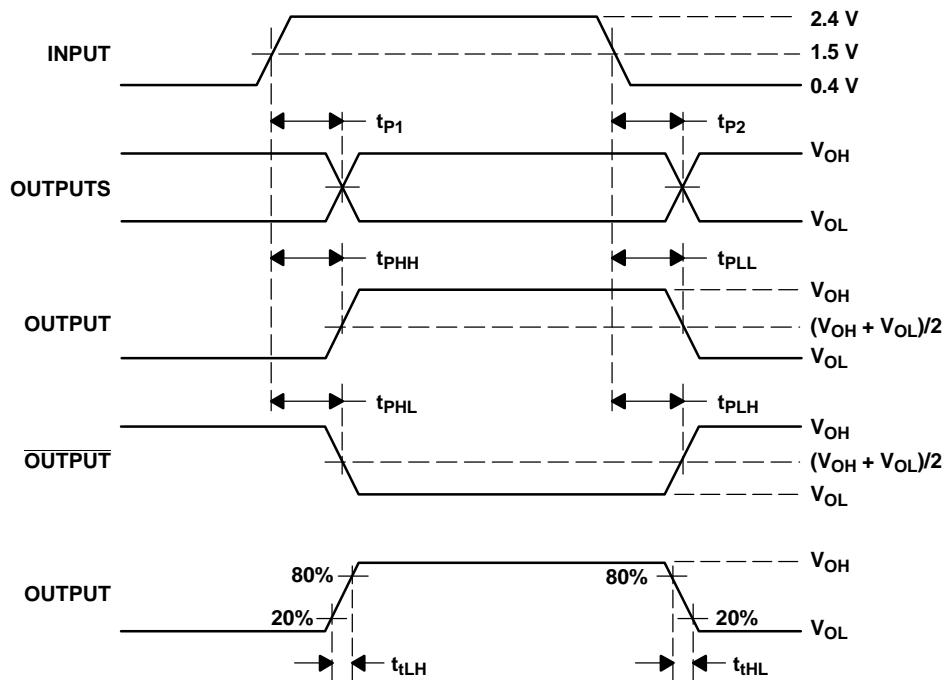

Figure 1. Propagation Delay Time Waveforms
(1) All typical values are at 25°C and with a 5-V supply.
(2) Parameters  $t_{P1}$  and  $t_{P2}$  are measured from the 1.5 V point of the input to the crossover point of the outputs (see Figure 1).
(1) All typical values are at 25°C and with a 3.3-V supply.